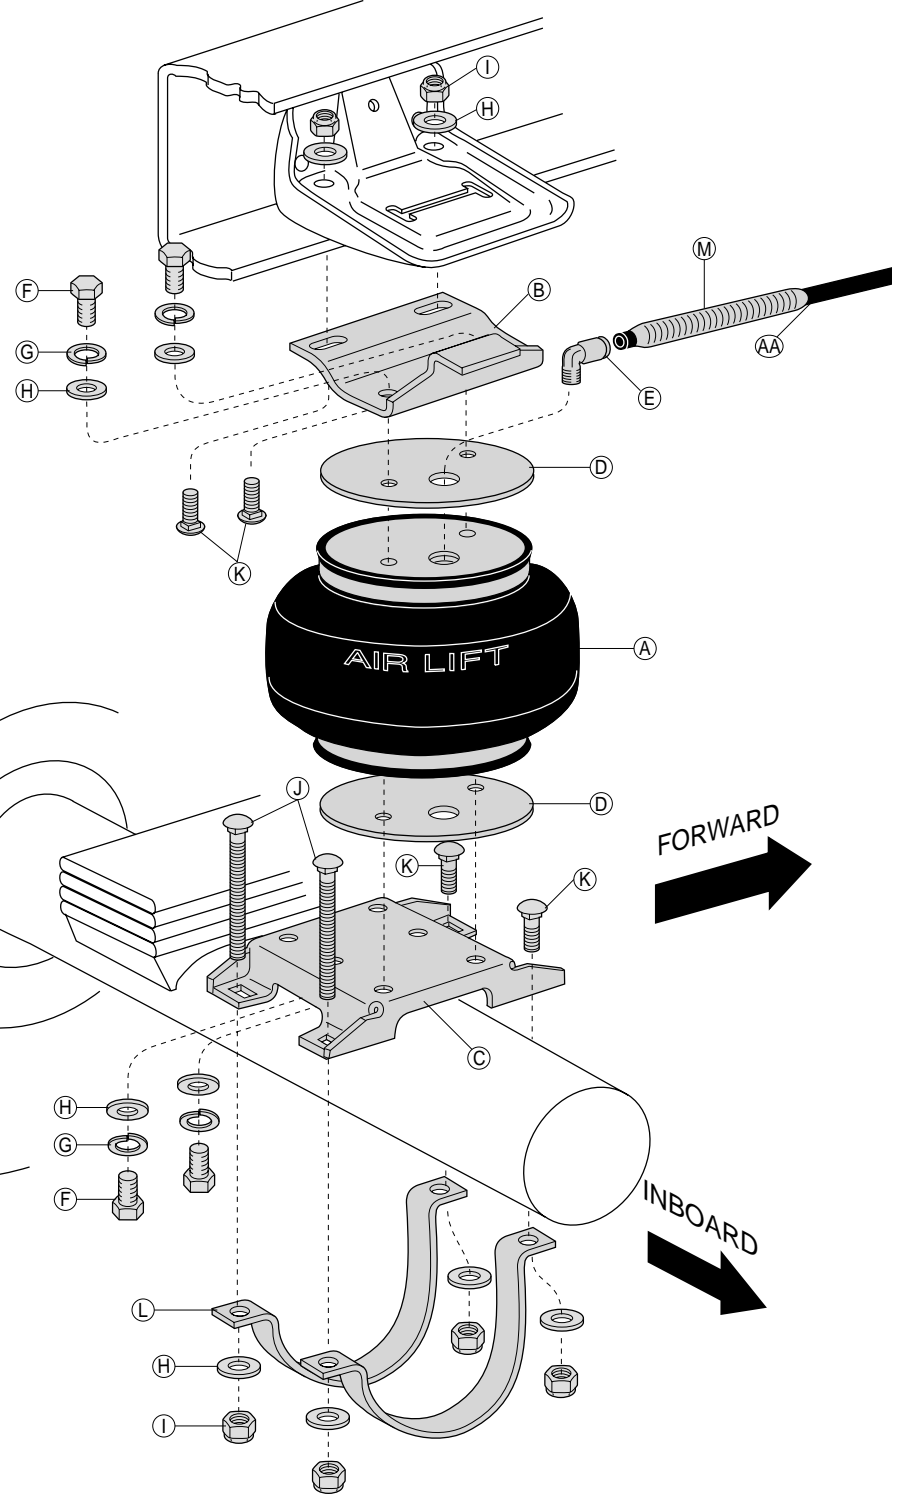

Figure 1
\* (not shown in Figure 1)
4. Insert two short carriage bolts (K) into the upper bracket (Figure 1).
6. Secure the upper bracket to the frame and jounce bumper bracket using a flat washer (H) and nylock nut (I) on each carriage bolt (Figure 1).
1. Install two  $\frac{3}{8}$ " x 1.5" carriage bolts (K) in the two *forward* facing holes of the lower bracket (Figure 1).
2. Install two  $\frac{3}{8}$ " x 3.5" carriage bolts (J) in the *rearward* facing holes of the lower bracket (Figure 1).
3. Install the J-straps (L) with the *long leg to the front* of the vehicle. Loosely attach the straps using flat washers (H) and  $\frac{3}{8}$ " lock nuts (I). Refer to Figures 1 and 7.